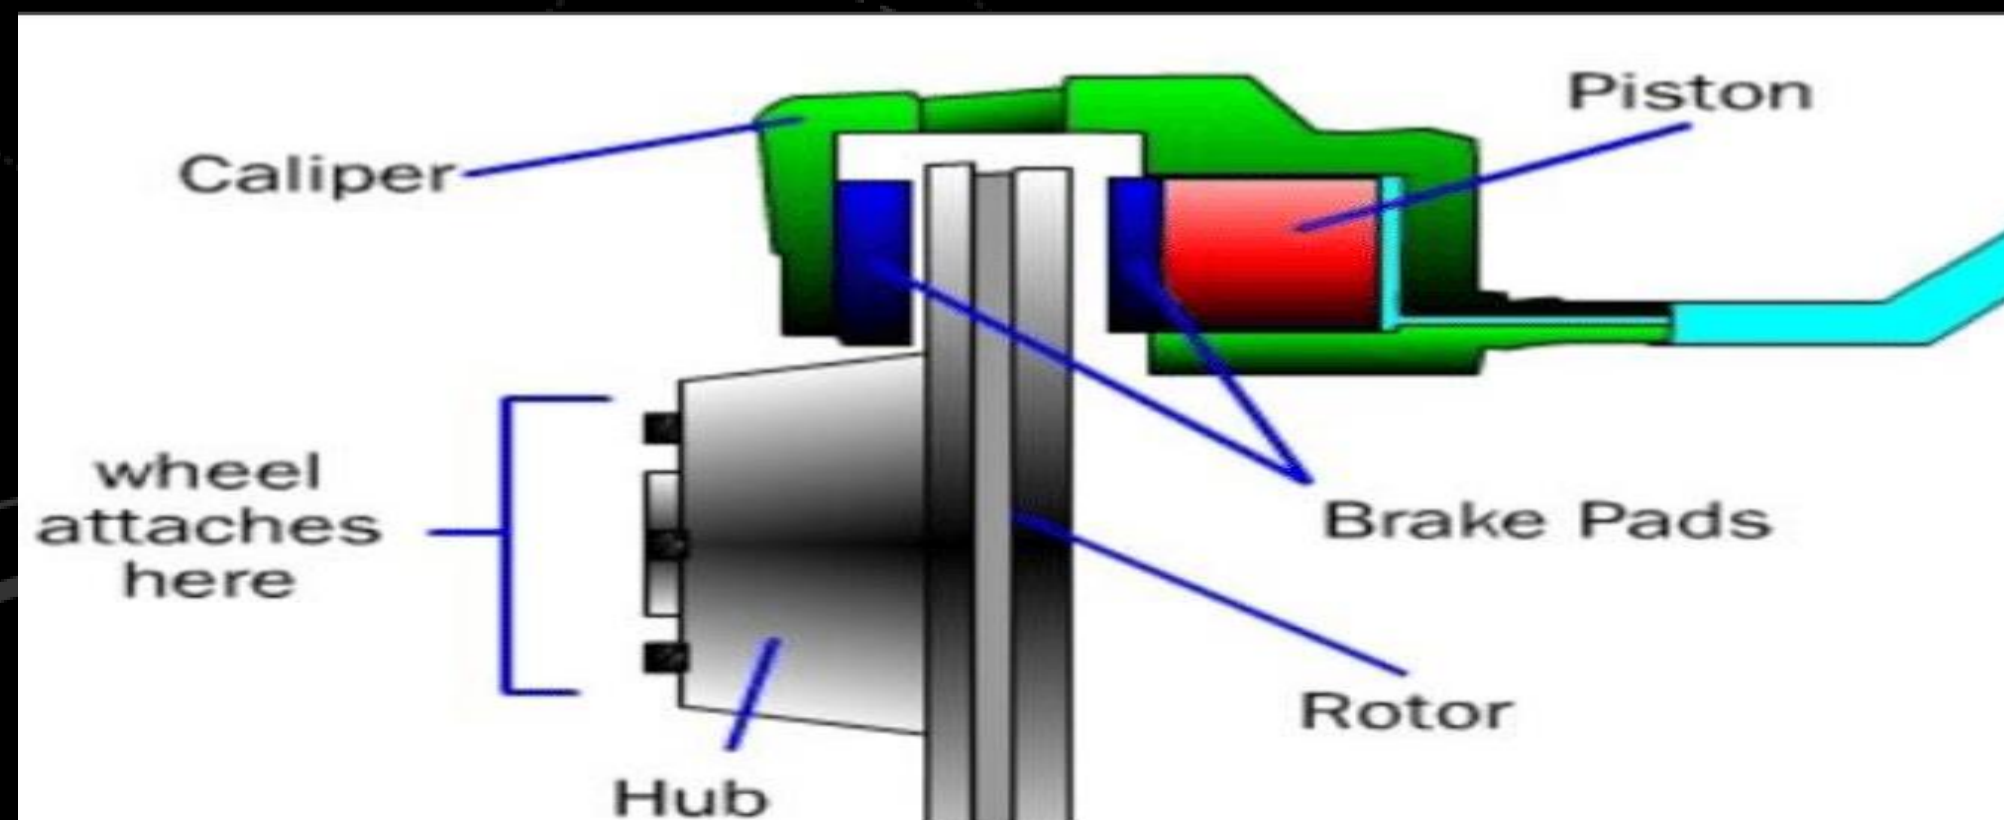

Figure 1: Disc Brake Components
- The master cylinder then pushes brake fluid through the brake lines which can be seen as the turquoise line in Figure 1.
- This pressure then reaches the piston which is located in the calliper as shown in Figure 1.